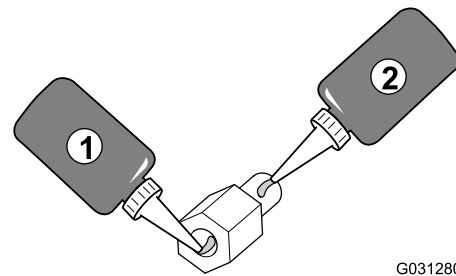

**Figure 4**
1. At the back of the sprayer monitor and with the 2 connectors (26 pin) aligned down, remove the top locknut (5 mm) from the stud for the ball-pivot fitting (A of Figure 4).
3. Thread the standoff into the stud for the ball-pivot fitting (B of Figure 4) and torque the standoff to 250 N·cm (22 in-lb).
6. Align the hole in the display hood with the stud portion of the threaded standoff (B of Figure 4).
7. Assemble the hood to the monitor (C of Figure 4) with the locknut (5 mm) that you removed in step 1.